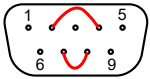
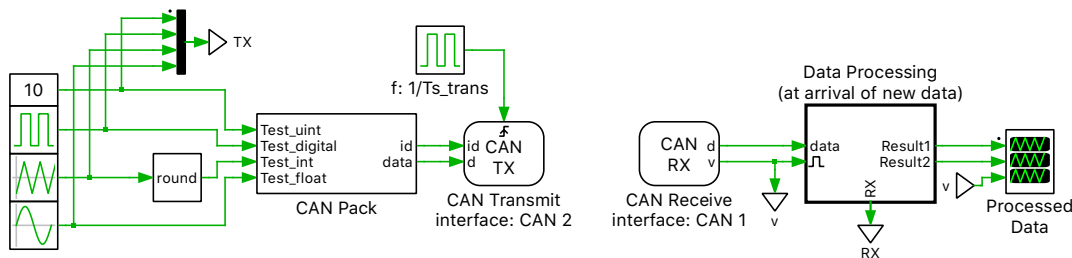

Figure 1: Loop-back wiring of CAN channel 1 and 2 on the rear panel of the RT Box
Figure 2: Subsystem circuit schematic for CAN loop-back demo
- Wires to connect the CAN_H pin of channel 1 and 2, and CAN_L pin of channel 1 and 2 together. See Fig. 1 for an illustration.
This demo model shows the CAN transmitting and receiving functions on two different channels inside the same subsystem. With the wiring setup shown in Fig. 1, a loop-back of the CAN message between two channels is formed. The circuit schematic is shown in Fig 2. The CAN Pack block generates a CAN message with PLECS signals as its inputs. Next, it interfaces with the CAN Transmit block to send out the CAN message. On the receiver side, after the CAN Receive block a CAN Unpack block is used to unpack the CAN message into PLECS signals that are displayed in a scope.